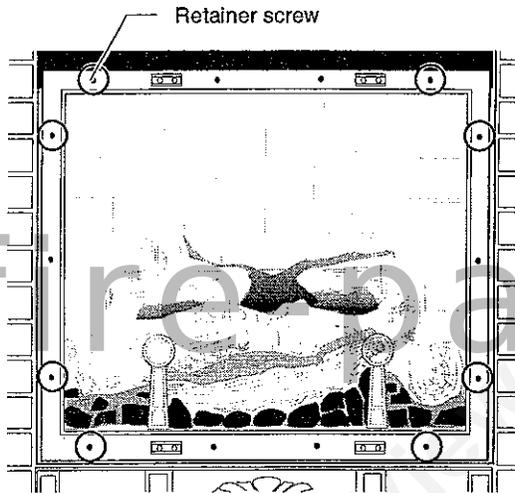

FIGURE 19. Loosen and then remove the frame retainer screws
1. Loosen, but do not remove, the six phillips head retainer screws Fig. 19